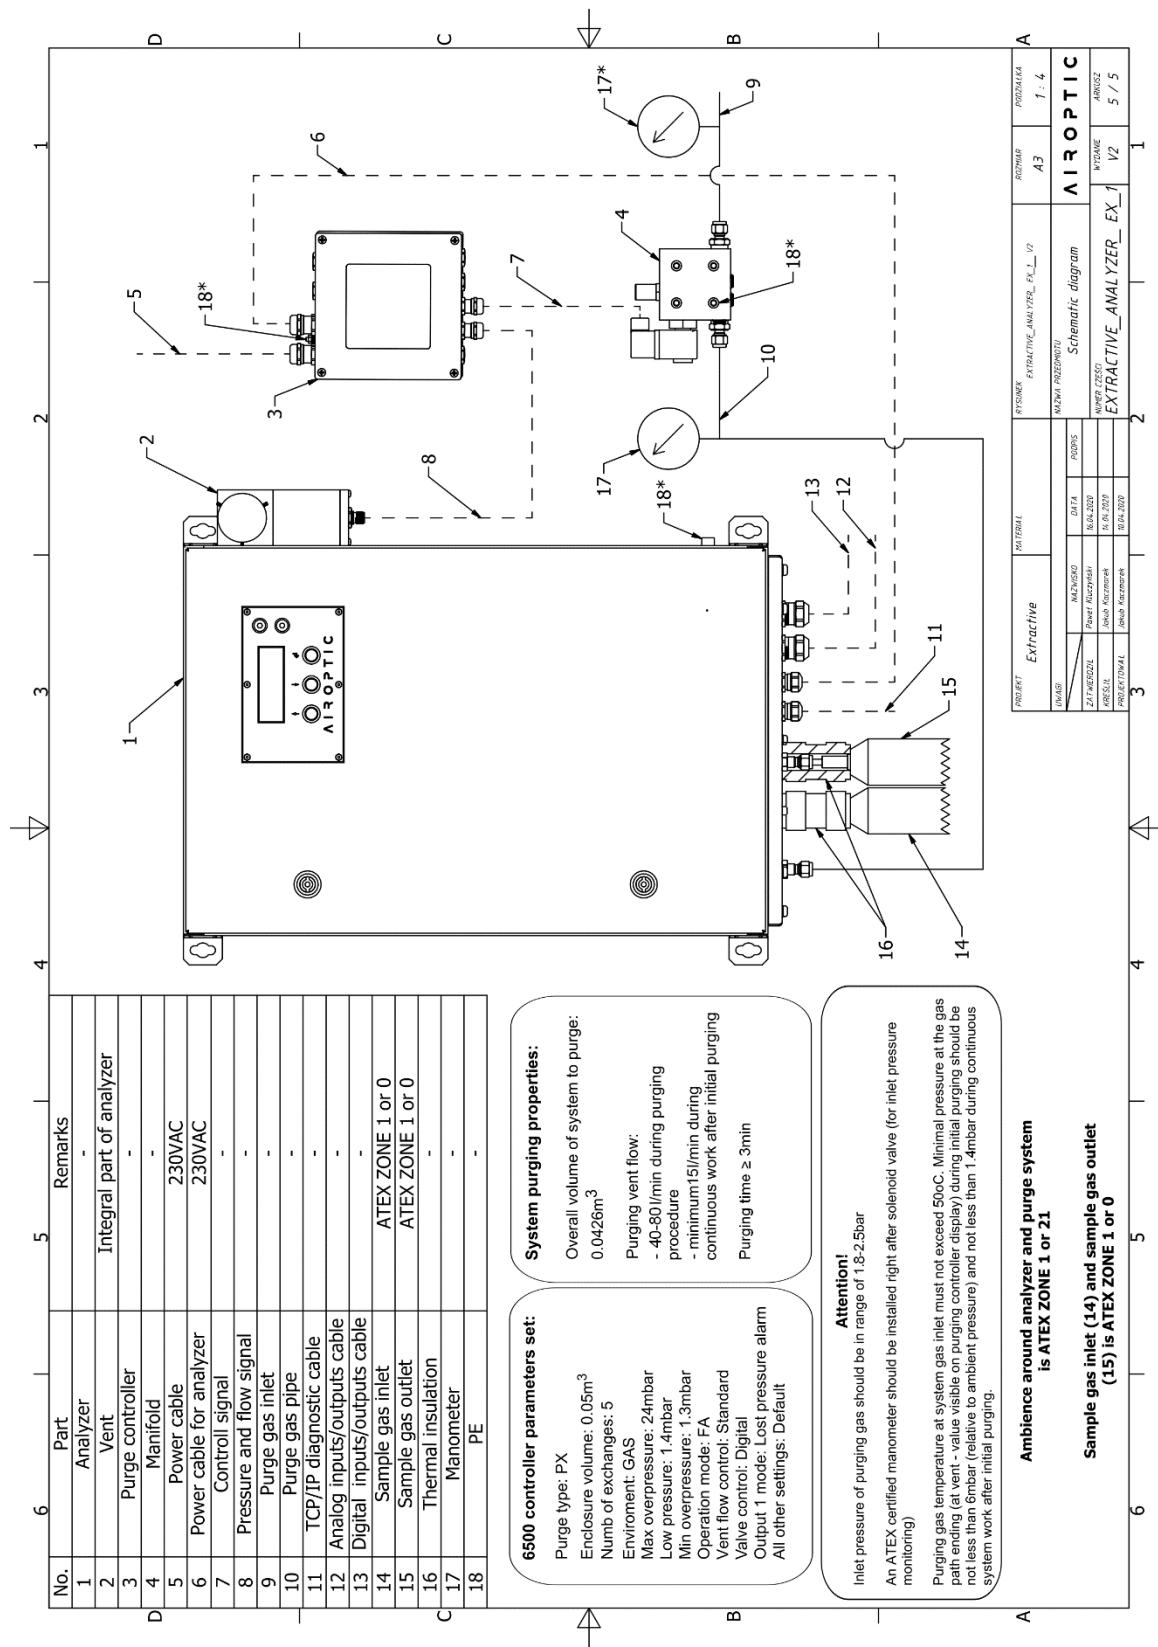

Figure 134. Overview of the purging system for GasEye Extractive system.
Tabela 2. Detailed explanation of the elements in the Figure 134.
1. Connect a 6 mm gas tube to the manifold block inlet 9 (number designation according to **Figure 134**). The length depends on the customer. Make sure there is no purge gas flow into the system until installation is complete and the purge controller is energized.